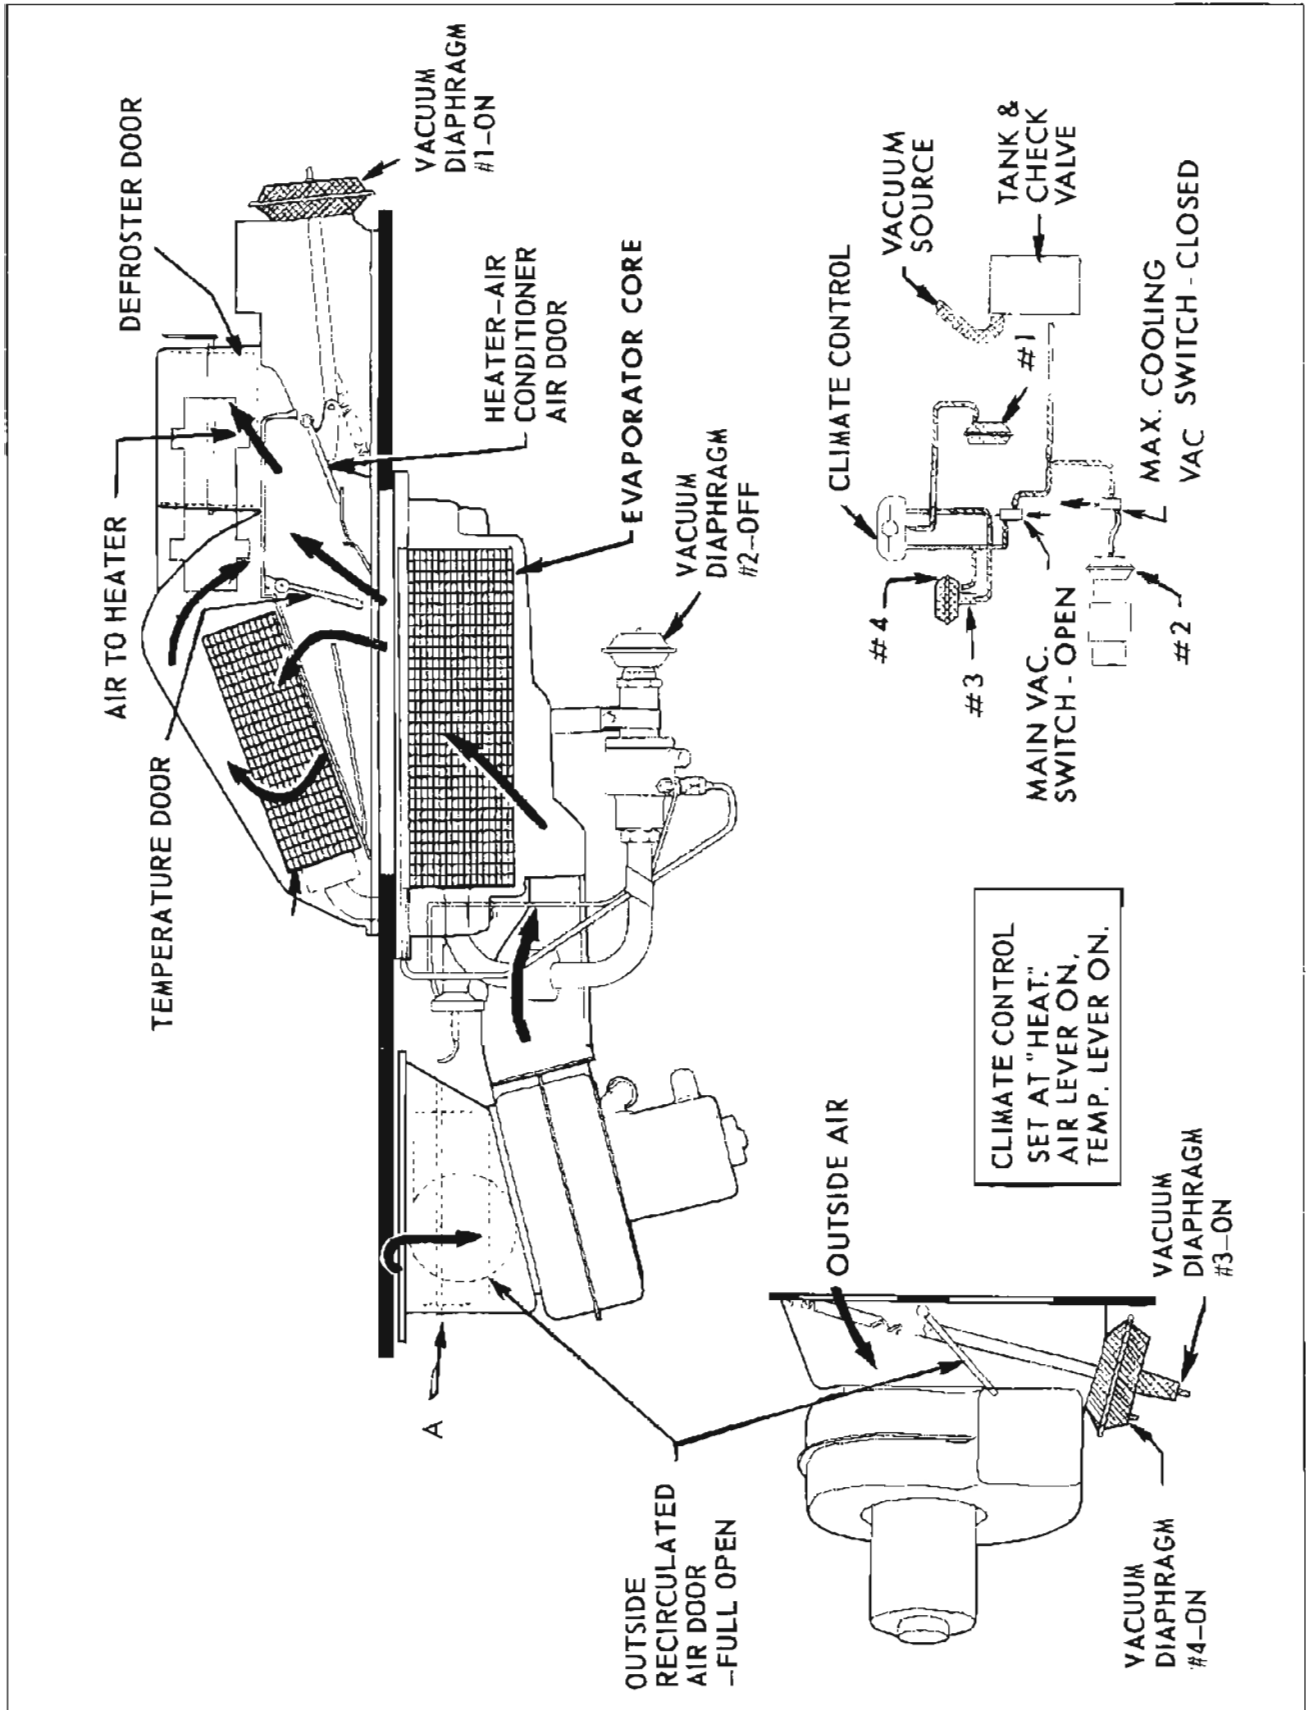

Figure 11-75—Air Conditioner Off, Heater On - 4400, 4600 and 4800 Series
- When climate control is set at HEAT, the AIR and TEMP levers are moved forward from the off position for heater operation. The main vacuum switch is opened which allows vacuum to be present at the #4 vacuum diaphragm and climate control. The climate control allows vacuum at the #1 and #3 vacuum diaphragms. Thus, the outside-recirculated air door is full open and the heater-air conditioner air door is positioned to direct air through the heater outlets. See Figure 11-75. The first movement of the TEMP lever wire opens the manual water valve to allow water to flow through heater core, positions the temperature door to direct some air through the heater core, and closes the maximum cooling switch (which has no effect on operation of heater) Full movement of the TEMP lever provides maximum heat by positioning the